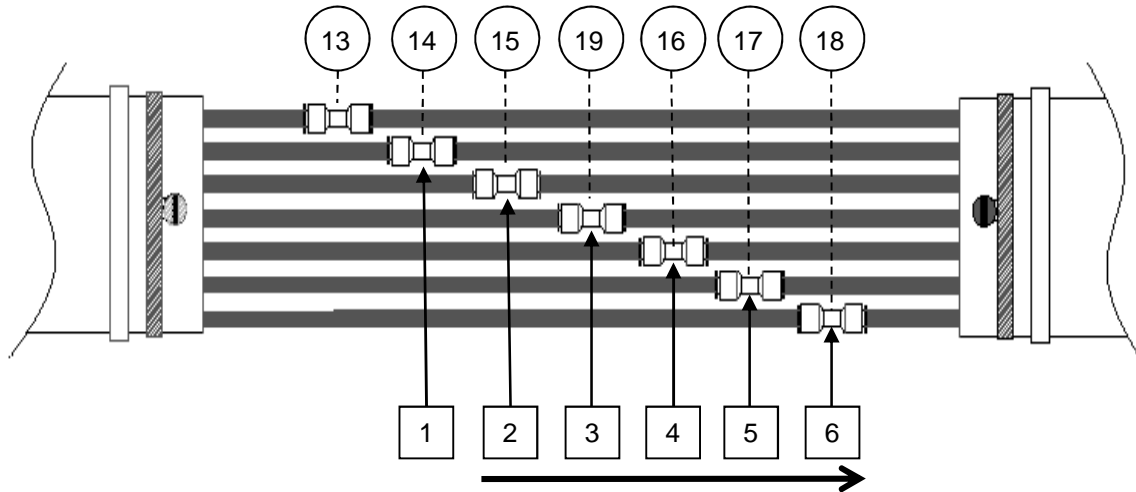

Figure 15
11.10 Repeat procedure for Tubes 2 through 6. Adjust each Tube Coupling position until there is about a 1/4"- 3/8" space between its end and the end of the previously installed Tube Coupling. **See Fig. 15.**